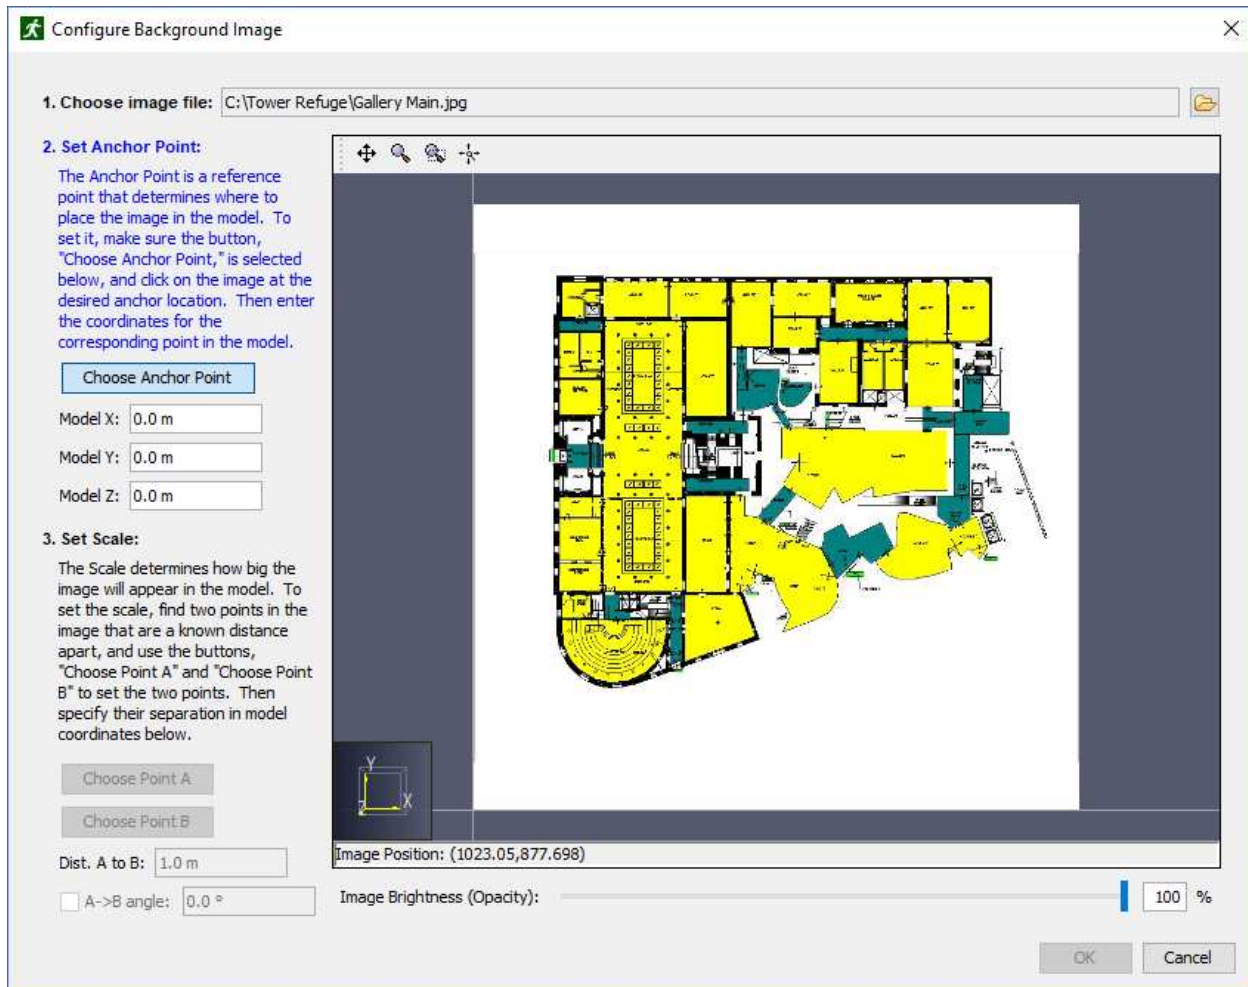

Figure 77. Set the anchor point
1. When clicked, a dialog will appear prompting for an image file. The following image formats are currently supported: BMP, GIF, JPG, PNG, and TGA. After a file is selected, a new dialog will appear as shown in Figure 77. This dialog allows properties of the image to be specified so that the proper scaling, rotation, and offset can be applied.